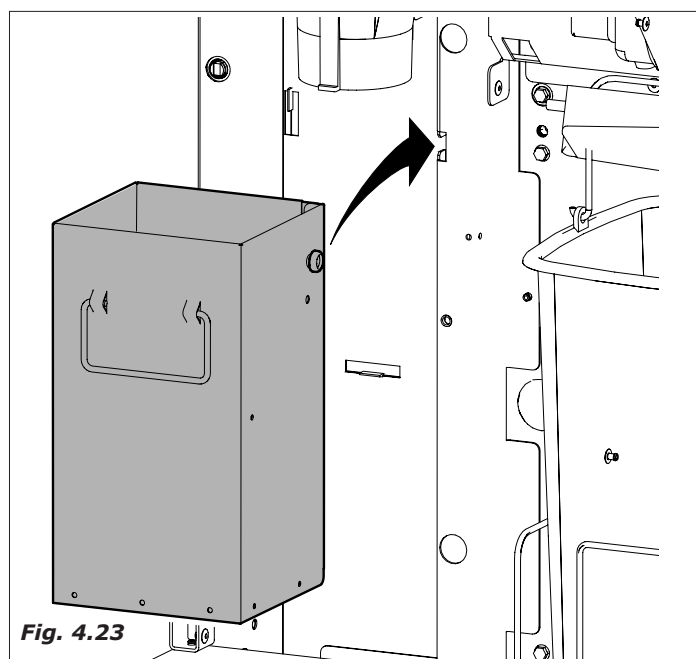

Fig. 4.23
- Hook the coin mechanism (Fig. 4.23).